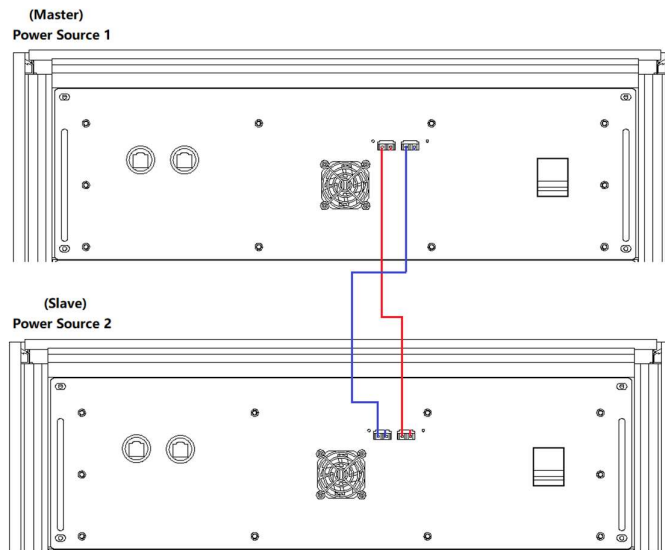

Figure 2-10 Optical fiber cable wiring diagram
**Step 2:** As shown in Figure 2-10, connect the optical fiber cables of the power supply.